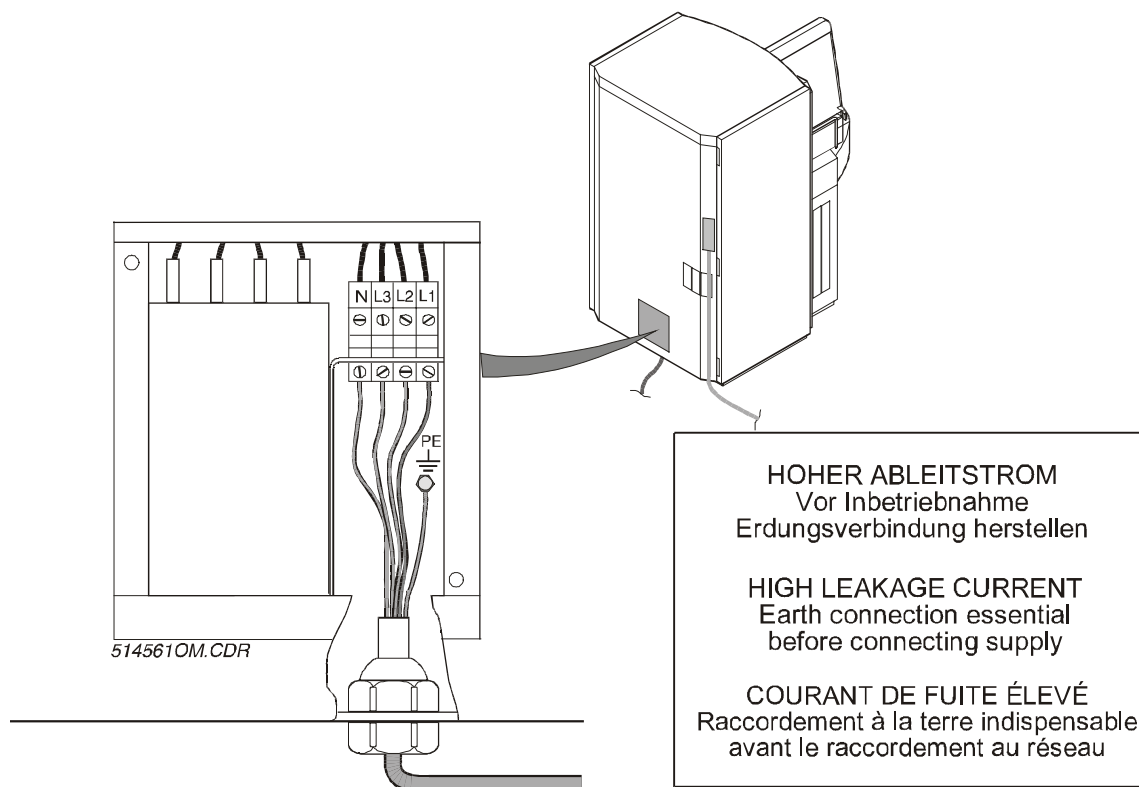

Figure 1
2. Loosen the mounting screws of the Auto transformer compartment cover as shown in figure 1 (You don't need to remove the screws).
4. Loosen the mounting screws of the Auto transformer compartment cover as shown in figure 1 (You don't need to remove the screws).